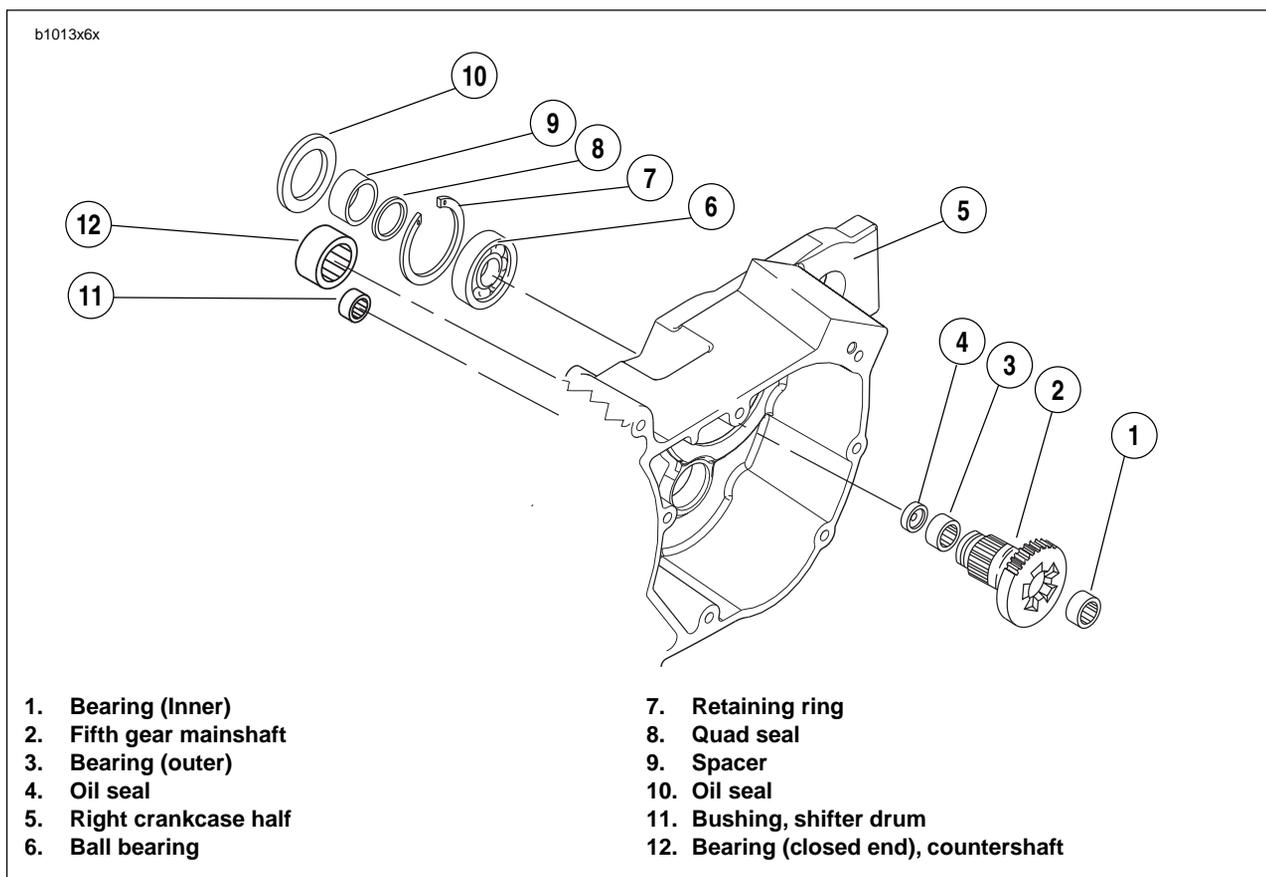

Figure 6-75. Transmission Assembly Right Crankcase Half
4. See Figure 6-75. Place **new** quad ring over threaded end of fifth gear, and position next to the gear taper. Install spacer over threaded end of fifth gear with chamfered end toward quad ring. Slide spacer up against bearing.
See Figure 6-75. Refer to *Transmission assembly right crankcase half*, for location of items discussed on this page.
2. See Figure 6-75. Remove main drive 5th gear. Use MAIN DRIVE GEAR REMOVER AND INSTALLER (Part No. HD-35316A). See 6.11 MAIN DRIVE GEAR.
2. See Figure 6-75. From the outside of the case place the needle bearing open end first next to the bearing bore. Hold the driver squarely against the closed end of the bearing and tap the bearing into place. The bearing is properly positioned when it is driven inward flush or 0.030 in. (0.762 mm) below the outside surface of the case.
4. See Figure 6-75. The shifter drum bushing (11) is a press fit in the right crankcase half. Inspect the bushing against the corresponding end of the shifter drum for proper fit and wear.